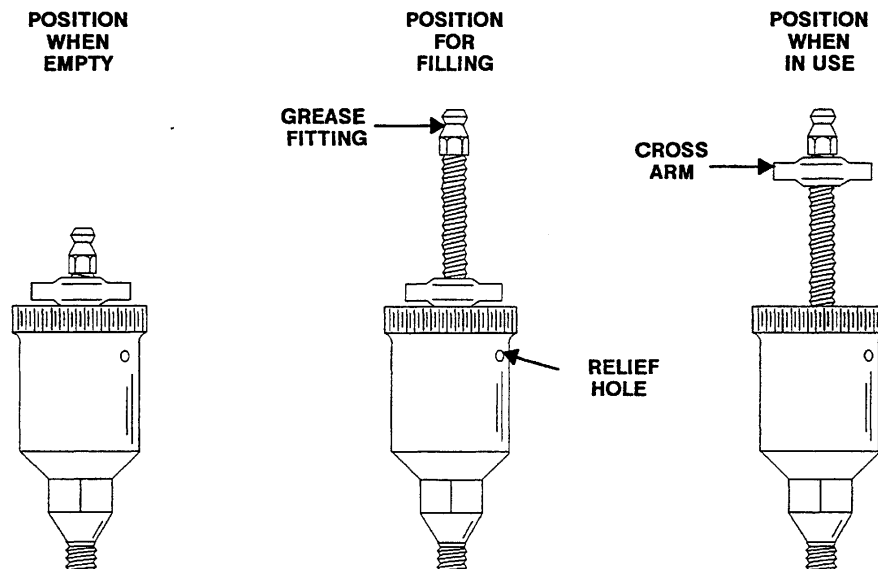

Figure 5. Automatic Lubricating Grease Cup
Before removing the impeller, turn the cross arm on the automatic grease cup (12) clockwise until it rest against the cover (see Figure 5). This will prevent the grease from escaping when the impeller is removed.
Fill the grease cup (12) through the grease fitting with No. 2 lithium base grease until grease escapes from the relief hole. Turn the grease cup arm counter-clockwise until it is at the top of the stem; this will release the spring to apply grease to the seal (see Figure 5).